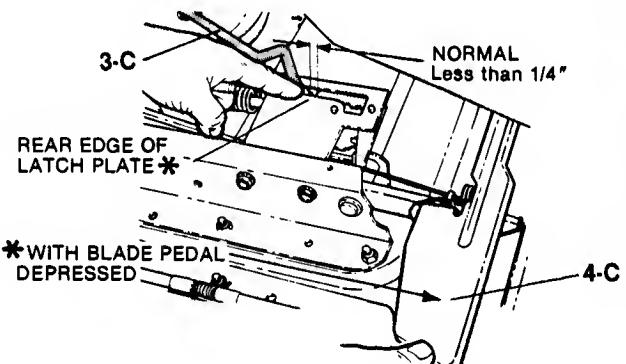

FIG. 10 - BLADE LEVER TRAVEL
As the brake band wears, The BLADE lever will gradually stop further rearward in the slot of the BELT COVER. Blade brake adjustment is required when the lever stops more than 1/4" behind the latch plate. Refer to FIG. 10. The adjusting point s shown in FIG.11. With the engine STOPPED, the adjustment is made as follows:
STEP 3: Release the BLADE pedals to allow the BLADE lever to move to the OFF position, then depress the BLADE pedals again. Check the clearance between the forward edge of the BLADE lever and the rear edge of the latch plate - there should be less than 1/4" (see FIG. 10) clearance. Repeat the procedure in STEP 2 if needed, to obtain correct clearance. Reinstall the BELT COVER.